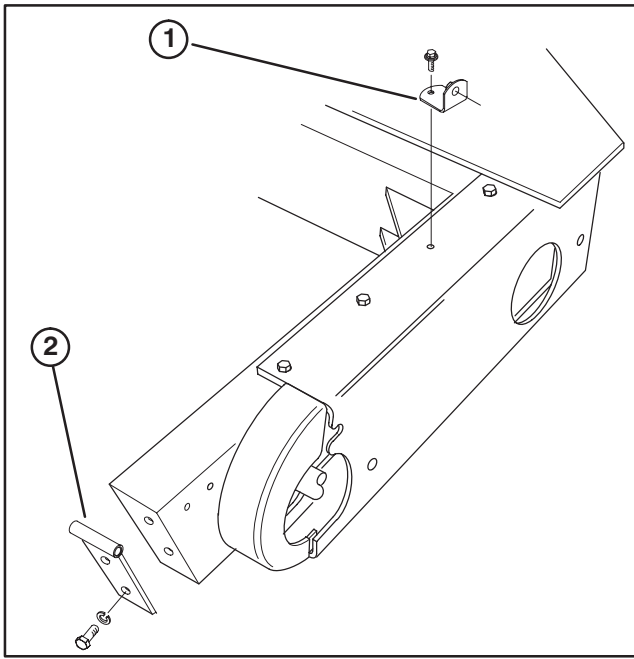

Figure 3
2. Mount a side bracket to each side rail with a flange head screw (Fig. 3).
3. Mount a hinge to each end of side rail with (2) 3/8–16 x 1" lg. capscrews and lockwashers (Fig. 3).